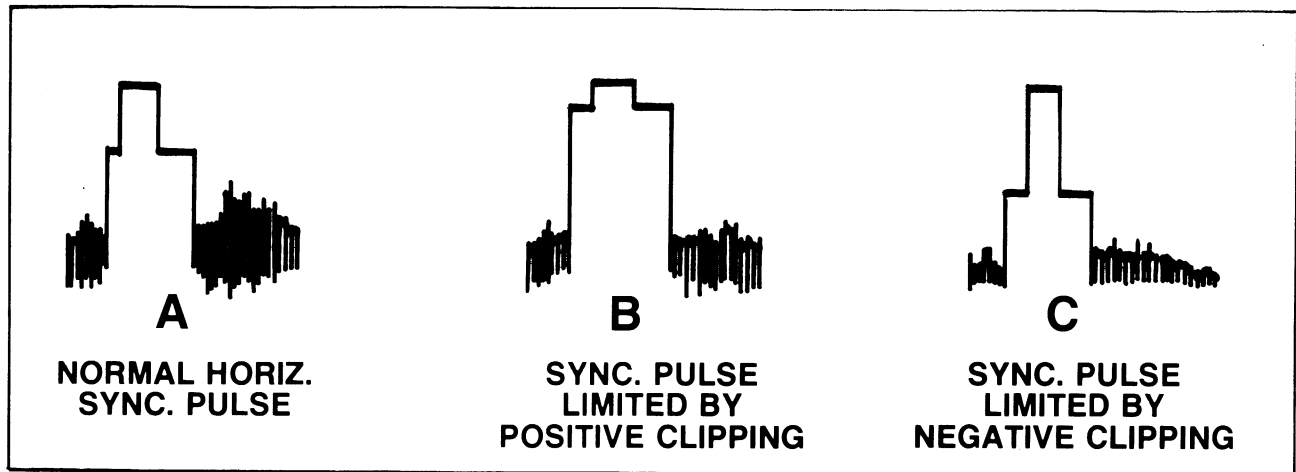

Figure 6-7. Sync. Pulse Suppression
- l. Figure 6-7 shows variations possible in the shape of the sync. pulse when signal overload (or a biasing problem) prevails. Normally, the sync. pulse exceeds pedestal height by about 50%, as indicated in Figure 6-7A. If limiting occurs in the positive direction, clipping (sometimes referred to as “compression”) occurs, as in Figure 6-7B. If limiting (or overload) occurs, in the opposite polarity, the sync. pulse proportions are changed as shown in Figure 6-7C.